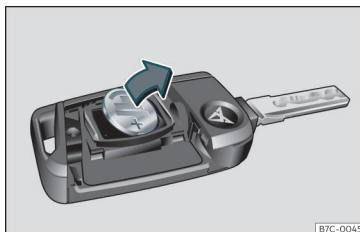

Fig. 112 Vehicle key: removing the battery.
- Extract the battery from the compartment using a suitable thin object >>> **Fig. 112**.
- Place the new battery in the compartment as shown >>> **Fig. 112**, pressing in the opposite direction to that shown by the arrow >>> ❷.